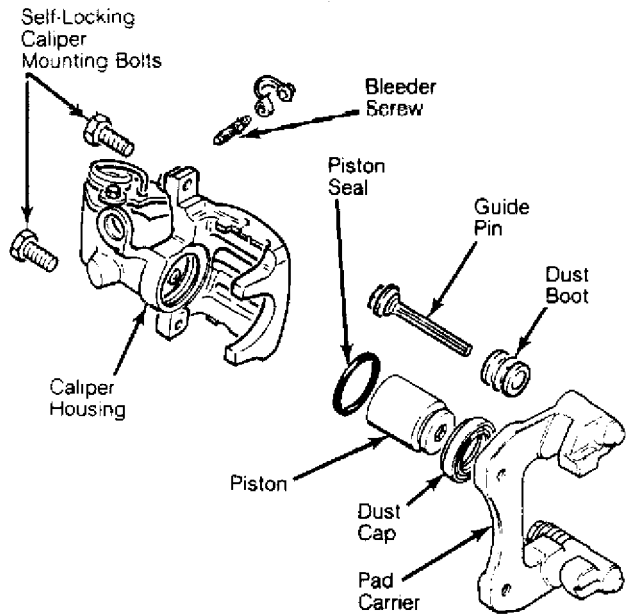

Fig. 7: Exploded View Of Rear Caliper
1) Lightly coat piston and seals with brake paste before refitting. Install piston seal in groove of caliper bore. Fit outer lip of dust cap onto piston. Inner lip of dust cap must be fitted into groove in caliper housing bore. See Fig. 7.